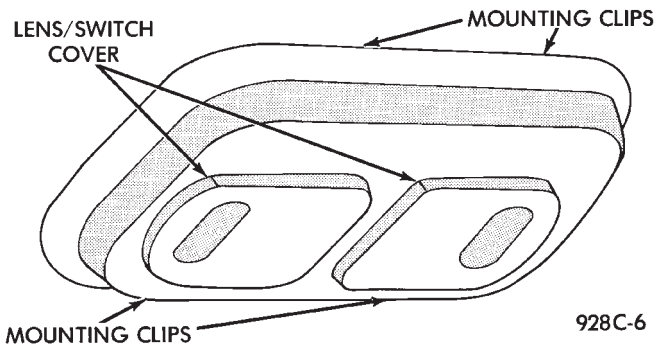

Fig. 6 Header Reading Lamp
(1) Pull the lamp assembly down, along the sides from the bracket. Four metal clips hold the lamp in the bracket (Fig. 6).